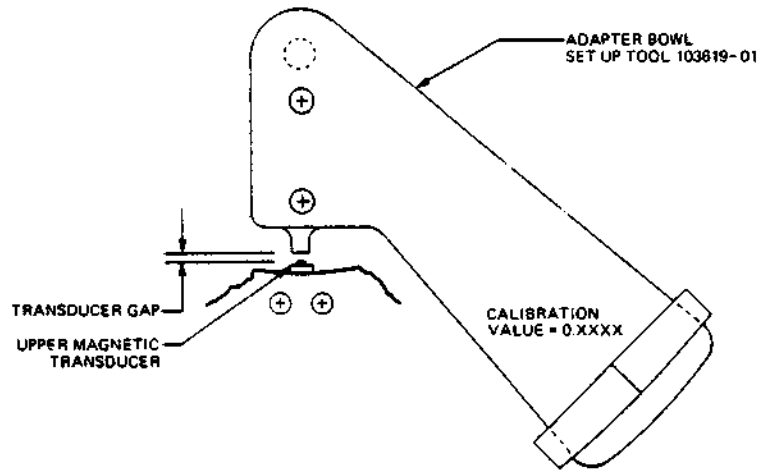

Figure 6-35. Upper Magnetic Transducer Gap
- (1) Remove power from the disk drive.
- (2) Remove P109 from the Logic PCBA.
- (3) With a suitable continuity indicating device, monitor the switch closure between pins 1 and 2 in the connector.
- (4) Install adapter bowl setup tool, PERTEC Part No. 103619-01, onto the spindle cone. See Figure 6-35.
A feeler gauge is used to measure the gap distance between the transducer pole tip and the tool. See Figure 6-35. Each adapter bowl setup tool will have marked on it a calibration value to be added to the nominal feeler gauge value.